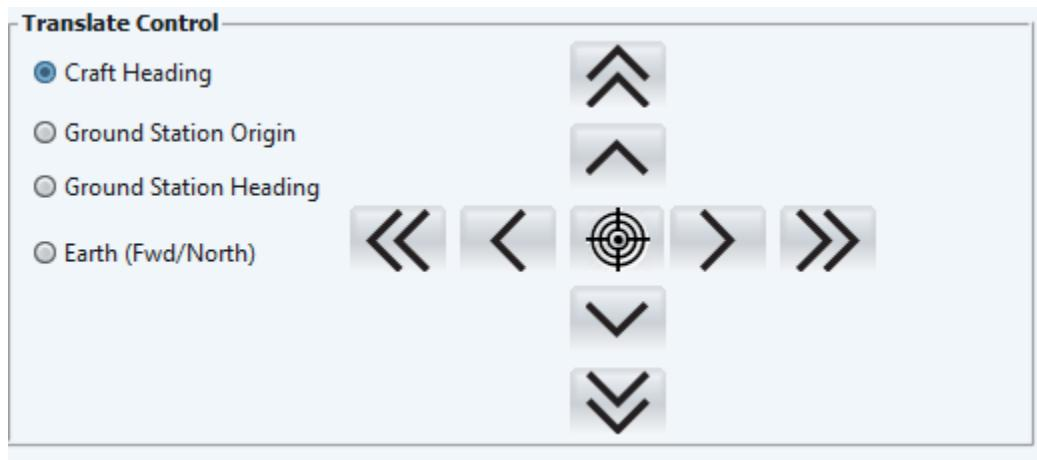

Figure 31 – Translate or “Nudge” Controls Panel
9. Use the translate controls shown in Figure 31 to adjust the position of the drone. The single arrow “>” will move the drone by the “Horizontal Nudge Distance” preference located under the “Pilot Controls” tab. The double arrow “>>” will move the drone by twice the nudge distance.